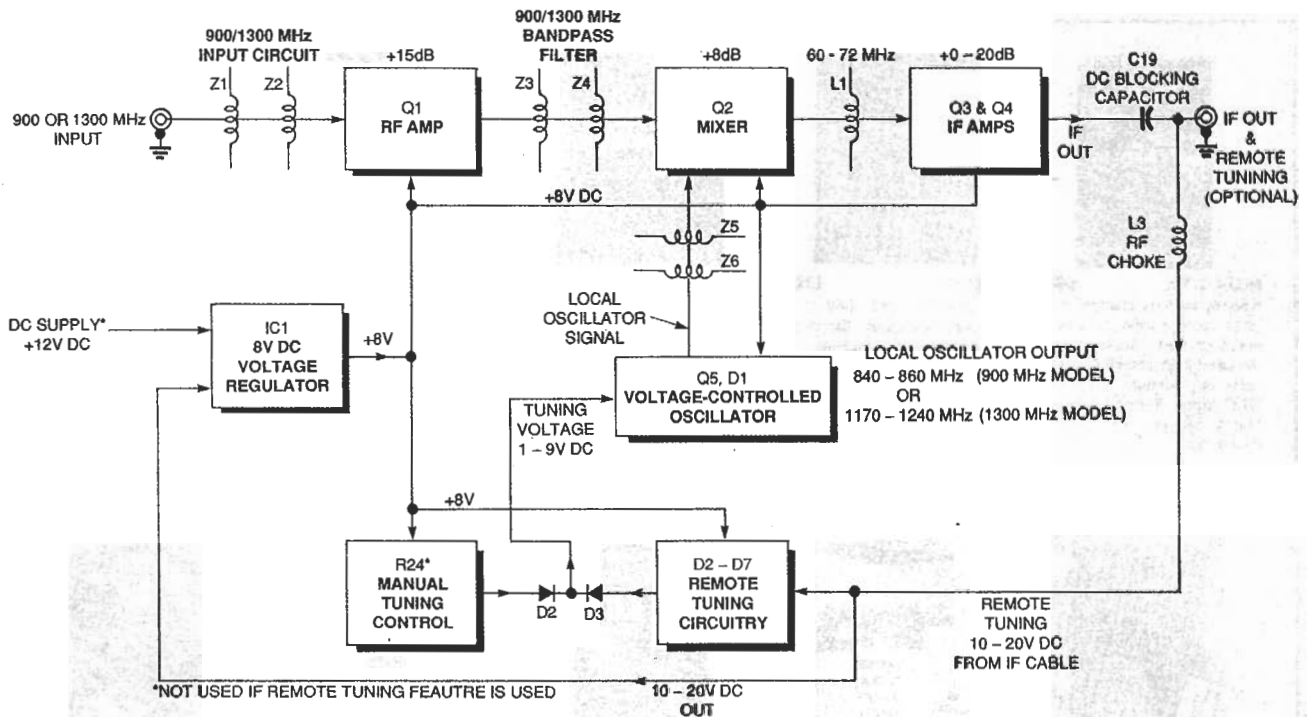

FIG. 1—BLOCK DIAGRAM for the downconverter serves for both the 900 and 1300-MHz versions.
The downconverter block diagram is shown in Fig. 1. Signals from the RF input are fed to low-noise RF amplifier Q1, which boosts the antenna signal and feeds it to mixer transistor Q2. There the amplified signal is mixed with the output of the tuneable voltage-controlled local oscillator Q5 to an intermediate frequency (IF) of 60 MHz. The IF signal is fed from the mixer to an IF pre-amplifier stage.